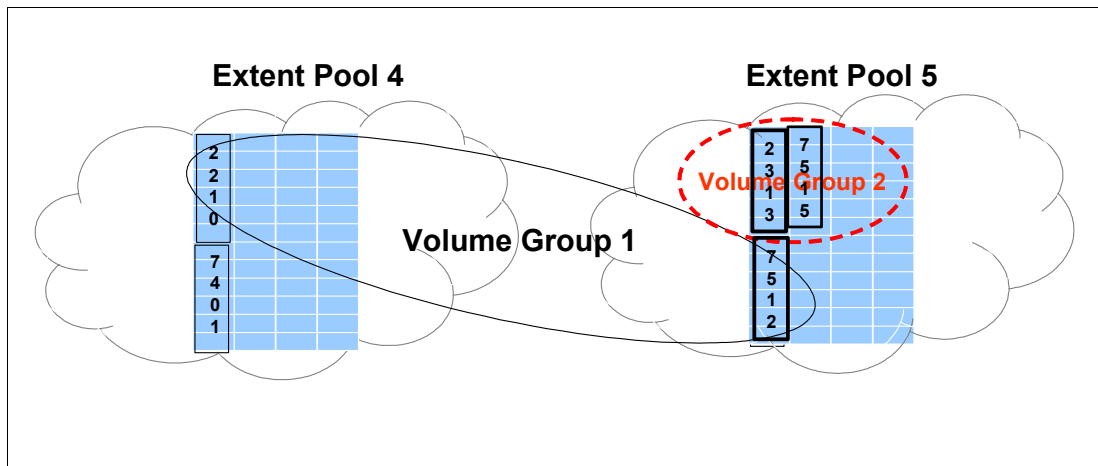

Figure 10-5 Example of relationship between LSSs, extent pools, and volume group
Figure 10-5 shows an example of the relationship between LSSs, extent pools, and volume groups: Extent pool 4, consisting of two LUNs, LUN 2210 and LUN 7401; and extent pool 5, consisting of three LUNs, LUN 2313, 7512, and 7515.
- ▶ Volumes from different LSSs and different extent pools can be in one volume group as shown in Figure 10-5. Volume group 1 consists of extent pool 4, LUN 2210, and extent pool 5, LUN 7512.
- ▶ Volumes from the same LSS or the same extent pool, or both, can be in different volume groups. For example in Figure 10-5, LUN 7512 in extent pool 5 and LUN 7515 in extent pool 5, both of which reside in LSS75, also reside in different volume groups.